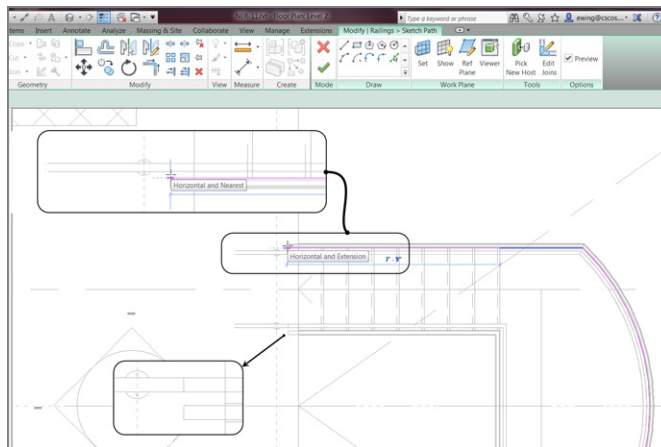

FIGURE 10.27: Creating a relationship between the stairs, the landing, and the handrail
5. Extend the railing to the front edge of the ADA family, exactly the same way you did for the south leg of the staircase (see Figure 10.27).
7. Repeat the procedure for the outside railing, as shown in Figure 10.27.